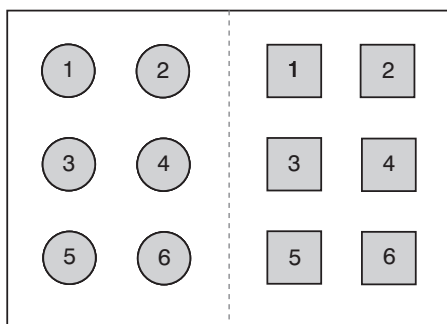

Figure 1 The initial arrangement
- 1 Work in a pair and arrange the twelve counters on the sheet of paper as shown in Figure 1. The arrangement represents the molecules in two pure liquids which are unmixed.